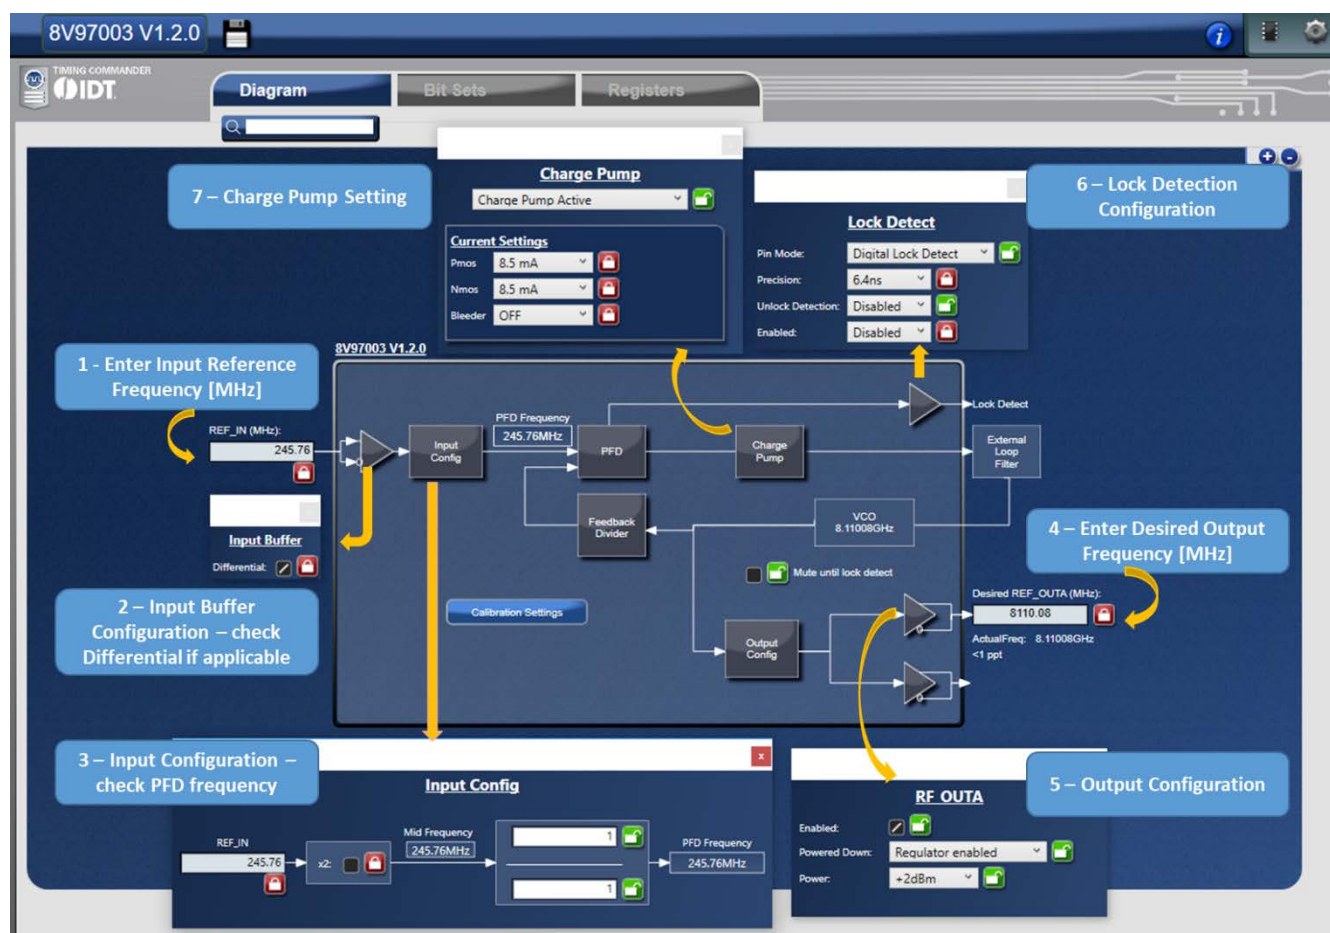

Figure 19. Timing Commander GUI for Creating New Integer Mode Configuration
- c. Set Pmos = 8.5mA, Nmos = 8.5mA, Bleeder = 1100μA to improve phase noise performance as shown in Figure 19.